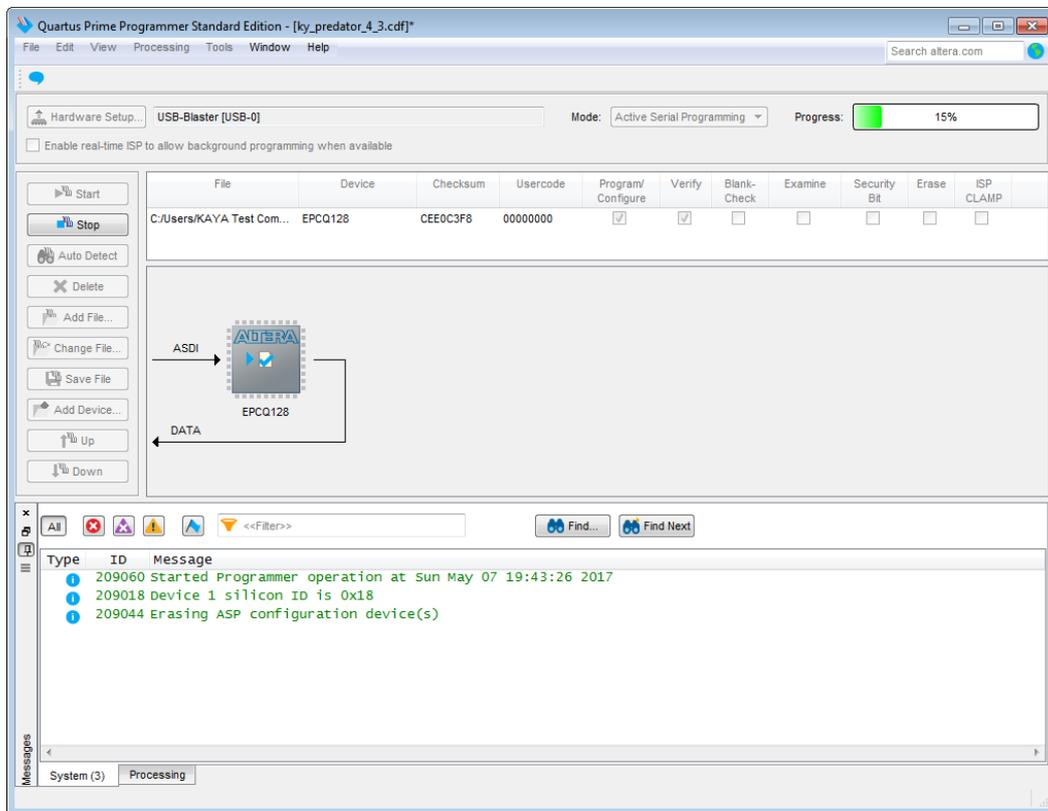

Figure 6 : Quartus – Programming Process
6. Click “Start” to initiate the image programming. This operation may take up to 15 minutes and shown in Figure 6.